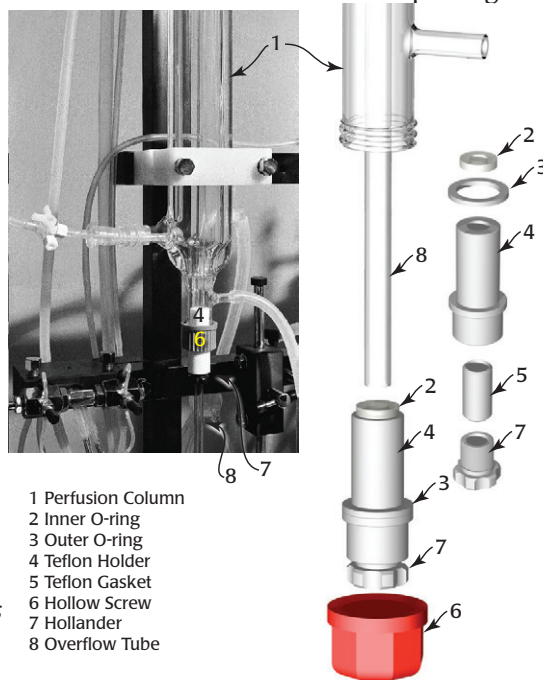

Fig. 12—(Right) The exploded view shows how the perfusion column fits together.
- The overflow tube has already been fitted with parts (1-5, 7 in Fig. 12) that are needed for mounting it in the perfusion column, and a silicone grommet near its top to protect the tube if it touches the inside of the column.
- The perfusion column has already been fitted with the blocks that mount it to the frame rack, and a hollow nut (6 in Fig. 12) on the bottom of the column that is used to secure the overflow tube in the column.
- B. Carefully feed the upper end of the overflow tube, with its grommet, through the opening in the bottom of the perfusion column until the shoulder of the Teflon tube support (4 in Fig. 12) touches the bottom of the column.
NOTE: The height of the overflow tube sets the pressure used to perfuse the heart in Langendorff mode. To adjust the height of the overflow tube, loosen the knurled nut (7 in Fig. 12) and carefully slide the overflow tube to the correct position. If the tube does not slide, loosen the knurled nut a little more. Once the tube is in position, finger-tighten the knurled nut to secure the overflow tube.